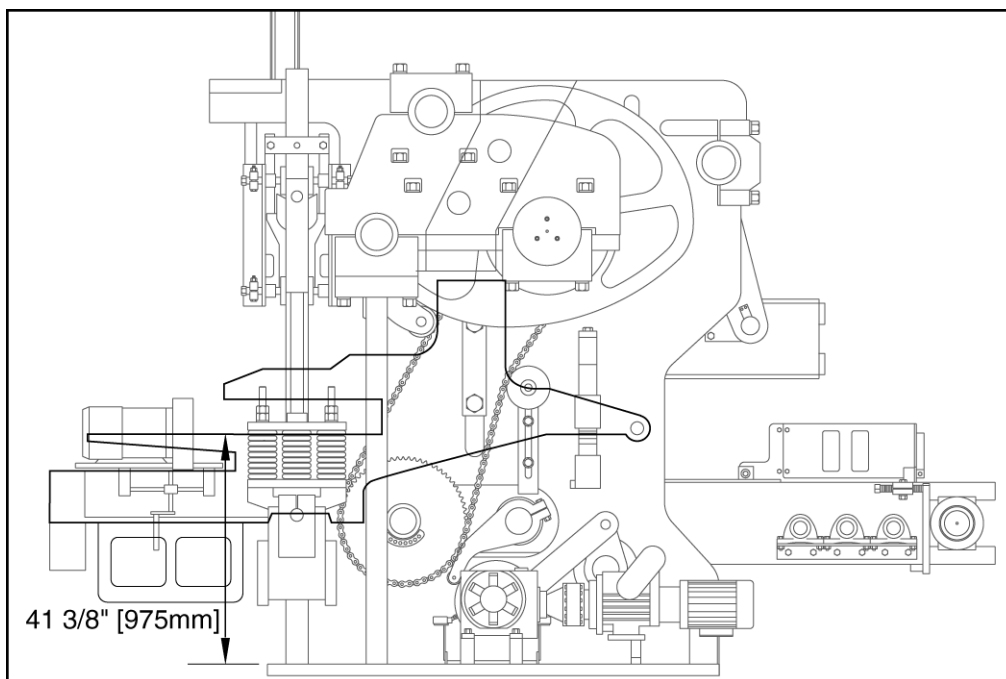

Figure 4.4 INNER FRAME ADJUSTMENT
- 4.1.3 Adjust the inner frame so that the mold throat is **41 3/8" [1050mm]** above the top on the base plate (figure 4.4). **0.00" [0mm]** of spacers required (no spacers). To do so, follow these procedures: